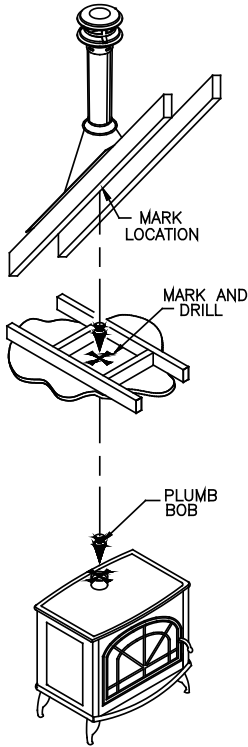

Figure 2
B. Drop a plumb bob to the center of the appliance flue outlet and mark center point on the ceiling (**Figure 2**). At your marked center point, cut and frame a square hole in the ceiling for installation of the Ceiling Support or